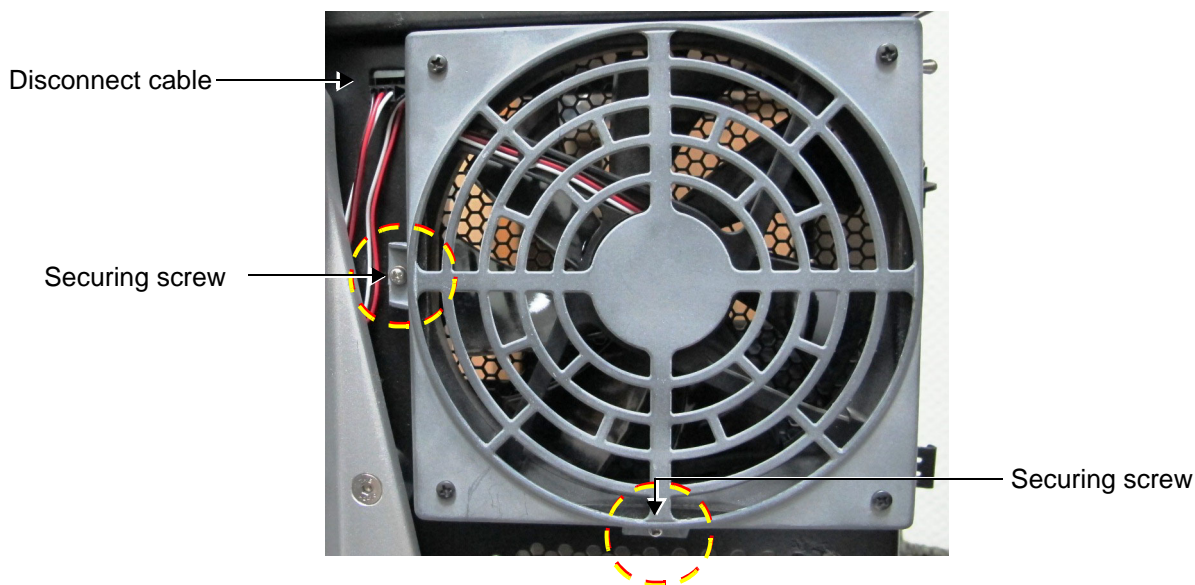

Figure 8-195 Fan for Cabinet Cage Assembly
The fan (see Figure 8-195 below) is located at the rear of the scanner.
2.) Disconnect the Fan cable as indicated in Figure 8-195 below.
3.) Loosen and remove the two securing screws as indicated in Figure 8-195, above.
- 2.) Fasten the two securing screws as indicated in Figure 8-195.
- 3.) Reconnect the Fan cable as indicated in Figure 8-195.